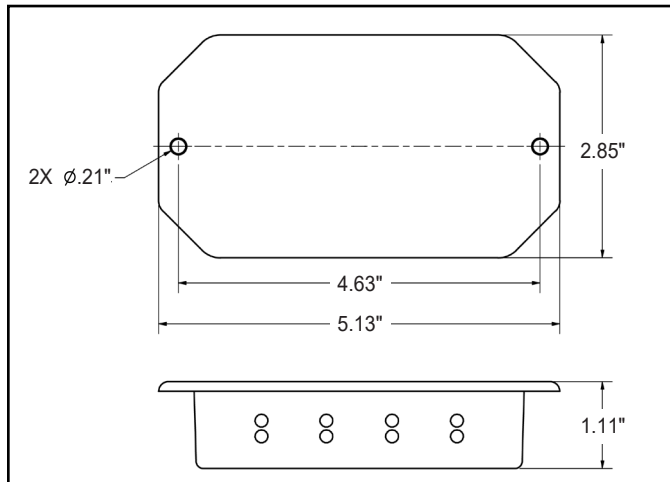

Figure 4. Mounting hole locations of the Control Unit
1. Follow the dimensions listed in figures 4 and 5 to properly mount the Dual Operator Monitor's Control Unit and Satellite Remotes.